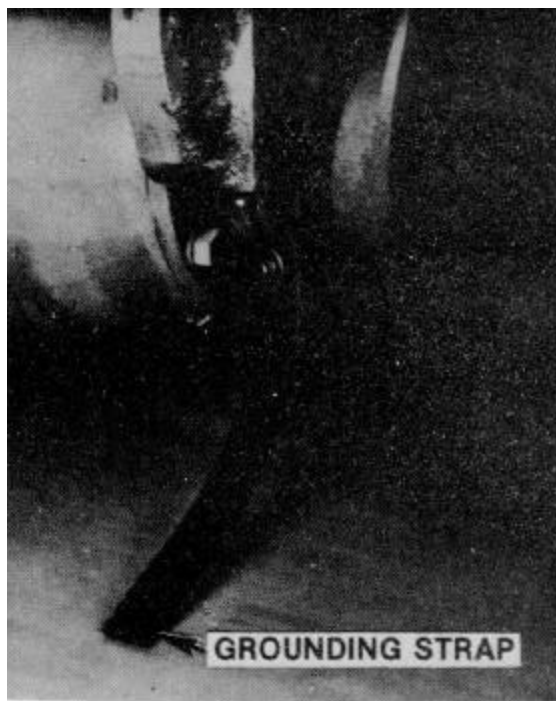

Figure 5-9
14. Remove the grounding strap if attached to the steer axle trunnion blocks (Fig. 5-9)